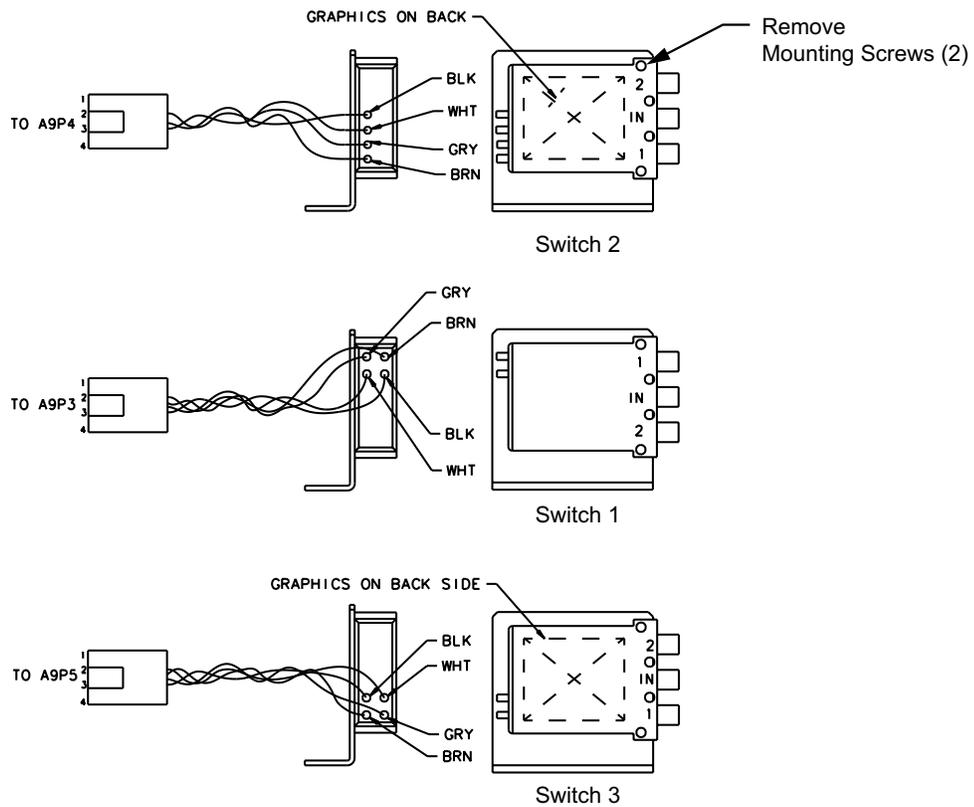

Figure 5-9. Switch Wiring and Bracket Detail
Step 6. Remove the two Phillips screws that secure the RF Switch to the mounting bracket (Figure 5-9).